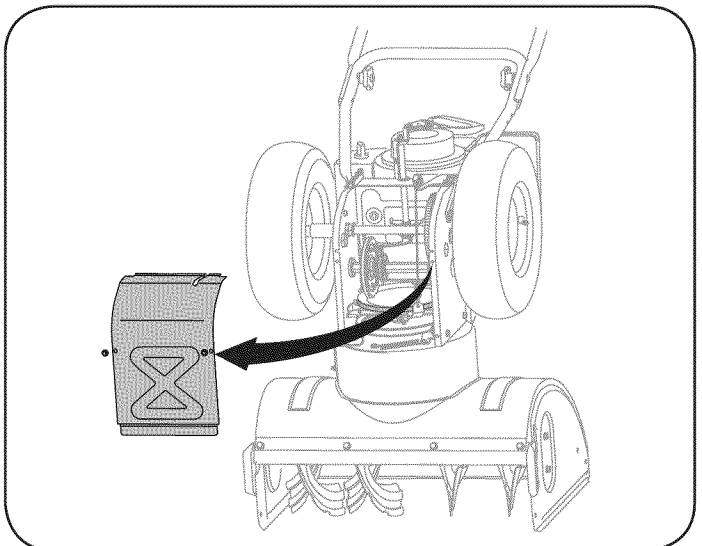

Figure 26
5. Remove the frame cover from the underside of the snow thrower by removing four self-tapping screws which secure it. See Figure 26.
5. Remove the frame cover from the underside of the snow thrower by removing the self-tapping screws which secure it. Refer to Figure 26.